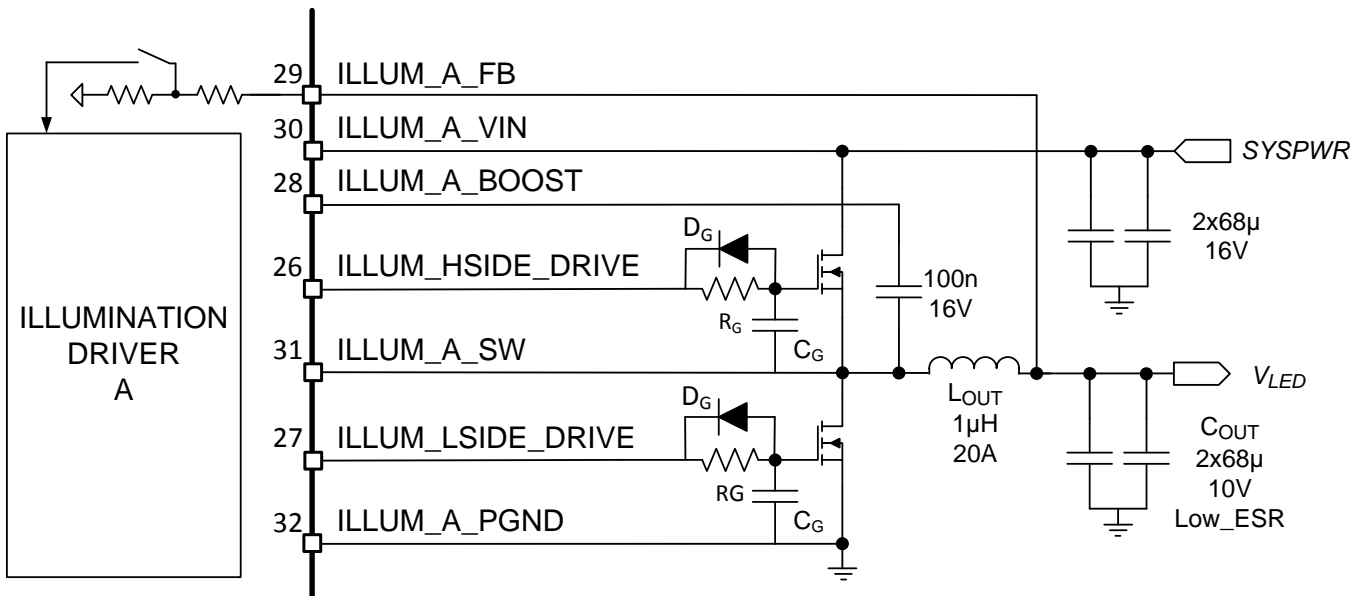
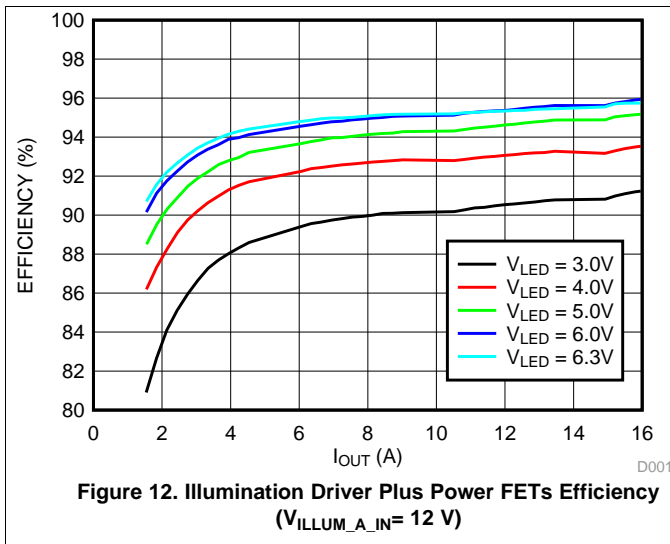

Figure 6. Typical Illumination Driver Configuration
Figure 12. Illumination Driver Plus Power FETs Efficiency (V_{ILLUM_A_IN} = 12 V)
The illumination driver of the DLPA3005 is a buck controller for driving two external low-ohmic N-channel FETs (Figure 6). The theory of operation of a buck converter is explained in the application note *Understanding Buck Power Stages in Switchmode Power Supplies (SLVA057)*. For proper operation, selection of the external components is very important, especially the inductor L_{OUT} and the output capacitor C_{OUT} . For best efficiency and ripple performance, an inductor and capacitor should be chosen with low equivalent series resistance (ESR).
Below (Figure 12) an overview is given of the efficiency of the illumination driver plus power FETs for an input voltage of 12 V. Used external components (Figure 6): High-side FET (L) CDS17506Q5A, Low-side FET (M) CDS17501Q5A, $L_{OUT} = 2 \times 2.2 \mu\text{H}$ parallel, $C_{OUT} = 88 \mu\text{F}$. The efficiency is shown for several output voltage levels (V_{LED}) versus output current.